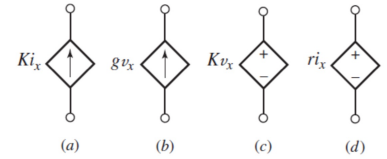

Fig. 4 Circuit symbols for the four different types of dependent sources:
- In Fig 4(a) and (c), K is a dimensionless scaling constant.
- In Fig 4(b), g is a scaling factor with units of A/V.
- Fig. 4(d), r is a scaling factor with units of V/A.